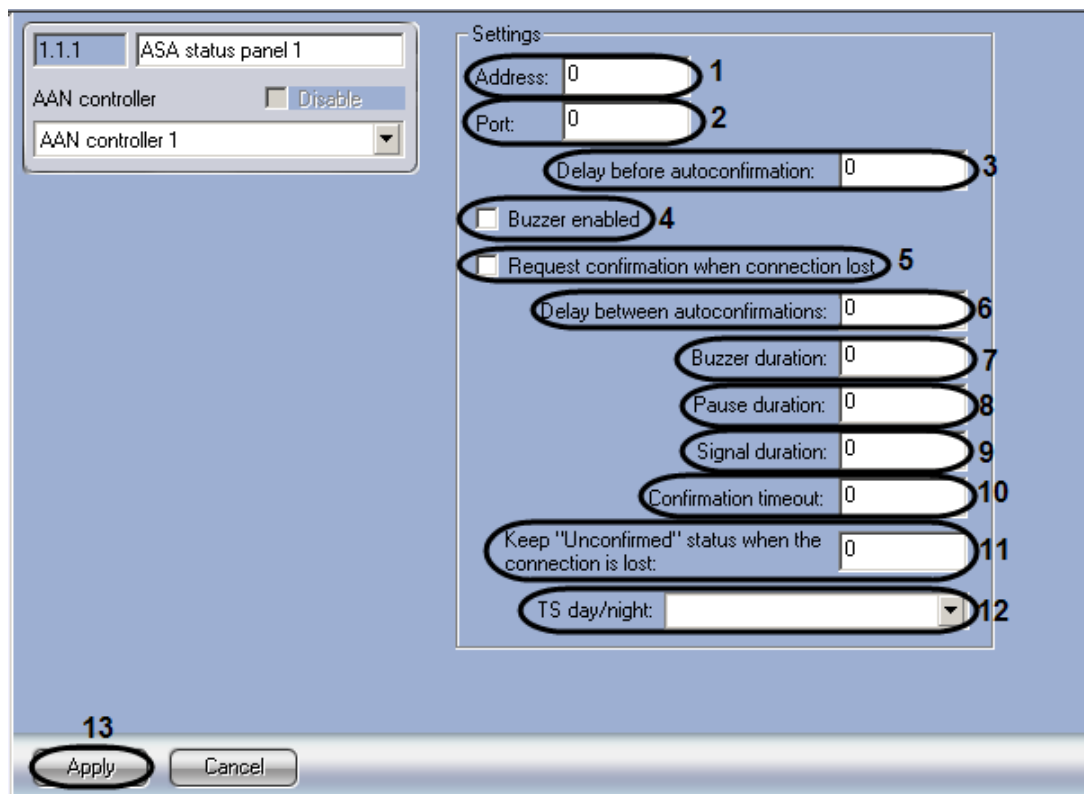

Fig.3.3-6 Settings pane of an ASA Status Panel object
1. Go to the **ASA Status Panel** object's settings panel (Fig.3.3-6).
2. In the **Address** field, enter the ASA panel's unique address (see Fig.3.3-6, 1).
3. Select the port used to connect to the ASA panel from the **Port** dropdown list (see Fig.3.3-6, 2).
4. In the **Delay before autoconfirmation** field, enter the time in seconds before an alarm is automatically confirmed (see Fig.3.3-6, 3).
5. Check the **Buzzer enabled** checkbox if the ASA panel's buzzer is to be enabled (see Fig.3.3-6, 4).
6. If confirmation is required when the connection between the ASA panel and the controller is lost, then check the appropriate checkbox (see Fig.3.3-6, 5).
7. In the **Delay between autoconfirmations** field, enter the time delay (in seconds) between automatically confirmed alarms (see Fig.3.3-6, 6).
8. In the **Buzzer duration** field, enter the duration (in seconds) of the buzzer's tones (see Fig.3.3-6, 7).
9. In the **Pause duration** field, enter the duration (in seconds) of the pause between the buzzer's tones (see Fig.3.3-6, 8).
10. In the **Signal duration** field, enter the duration (in seconds) of the buzzer's light signal (see Fig.3.3-6, 8).
11. In the **Confirmation timeout** field, enter the time period (in seconds) before confirmation of an alarm (see Fig.3.3-6, 10).
12. In the **Keep "Unconfirmed" status when the connection is lost** field, enter the time period (in seconds) during which the **Unconfirmed** status will be preserved during connection loss (see Fig.3.3-6, 11).
13. From the **TS day/night** dropdown list, select the time schedule that will define day for the ASA panel (see Fig.3.3-6, 12).
14. To save changes, click the **Apply** button (see Fig.3.3-6, 13).